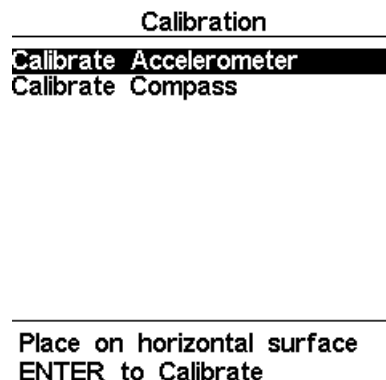

Figure 7.1: Calibrate Accelerometer menu option
1. Go to Menu->Settings->Calibration and choose the "Calibrate Accelerometer" option (see Figure 7.1);